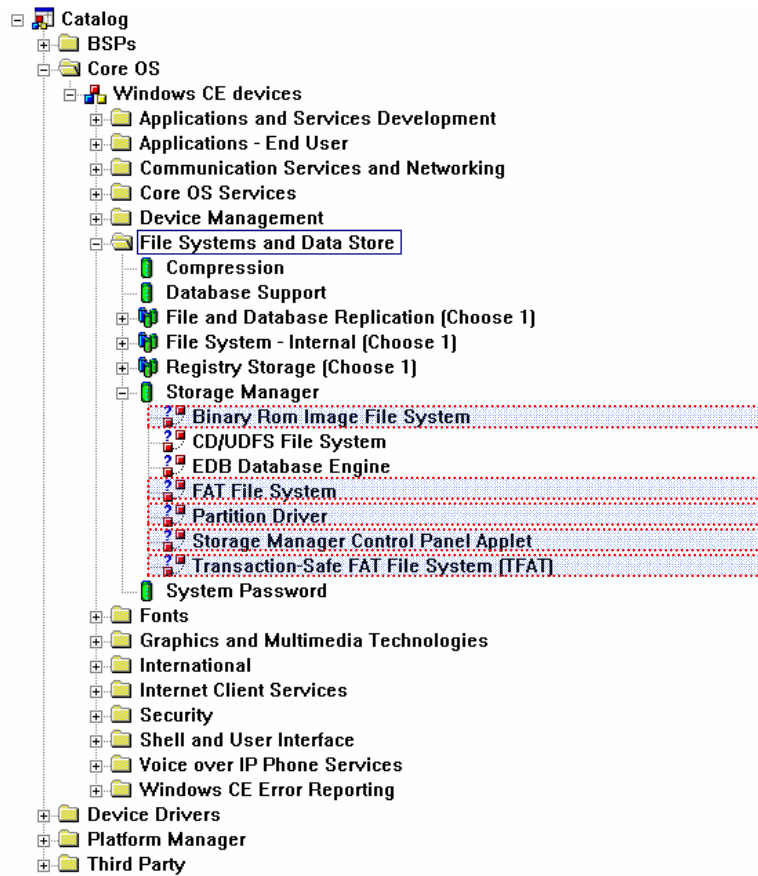

Figure 4-3 Some which you should add to OS Design
5. On the Platform menu, click Settings... as shown in figure 4-3.